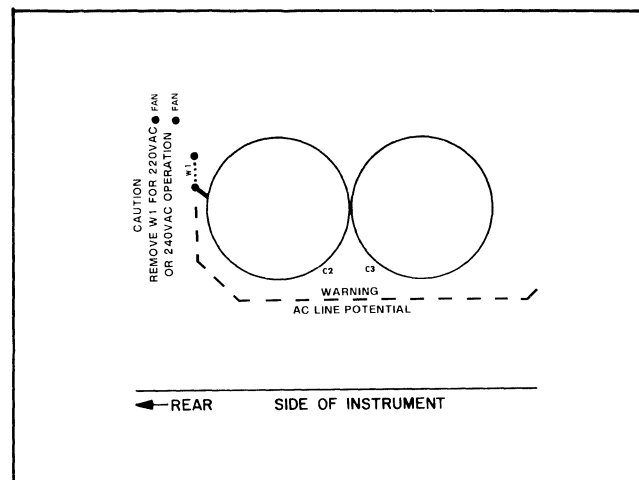

Figure 2-4. Location of Jumper W1
- The line voltage jumper W1 is located on main board near center rear (see Figure 2-4). (A dashed line is silkscreened on main board from vicinity of S2 to W1). Jumper must be soldered in place for 120V operation, and *must be removed for 220V or 240V operation*.